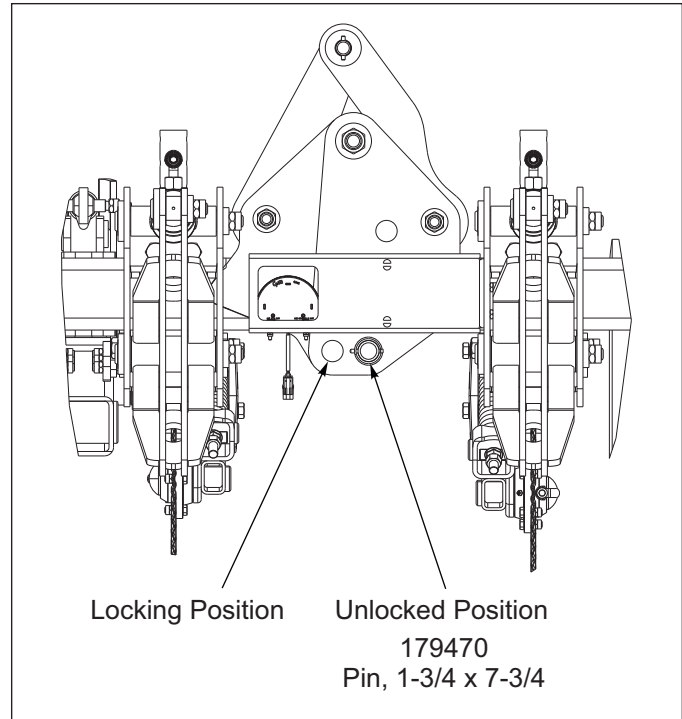

Figure 4-6: Folding Frame Wing Lock
6. To lock the Wing Assembly down, remove the pin from the unlocked position and into the locking position. See Figure 4-6.
The wing fold hydraulic system **MUST** be operated in float once the wings are unfolded **OR** the wings **MUST** be locked down. Failure to do so may result in wing fold cylinder damage. See Figure 4-6.